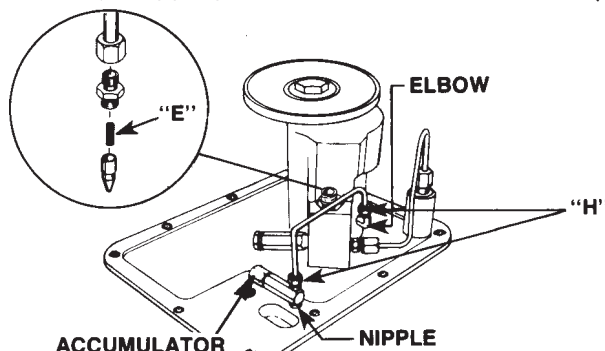

FIGURE 3
6. Replace the existing spring (see Figure 3, Inset item "E") with the supplied Spring, (Part Number 10362, [.047" dia. wire $\times$ $\frac{3}{4}$ " lg.]) Reinstall the connector.
13. Screw the accumulator onto the pipe nipple. Position the accumulator as shown in Figure 3.
14. Assemble the $\frac{3}{16}$ " tube assembly as shown in Figure 3. Tighten the fitting nuts "H" securely but do not over tighten.